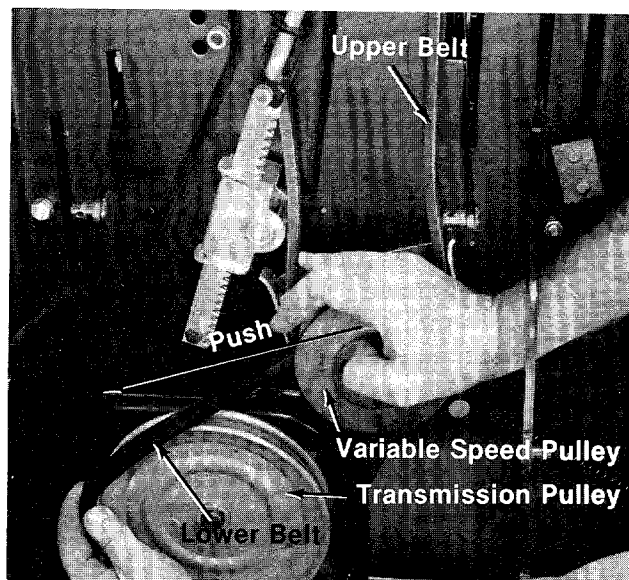

FIGURE 33.
10. While pushing the variable speed pulley towards the center of the rider, remove the lower belt from the transmission pulley. See figure 33.